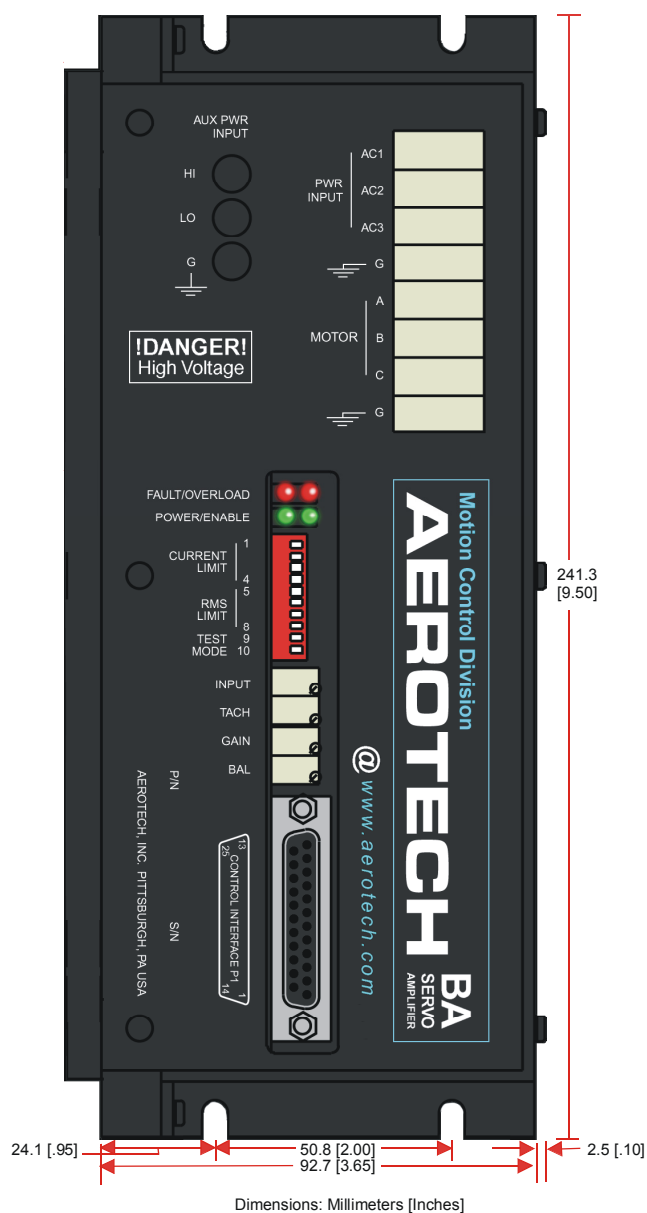
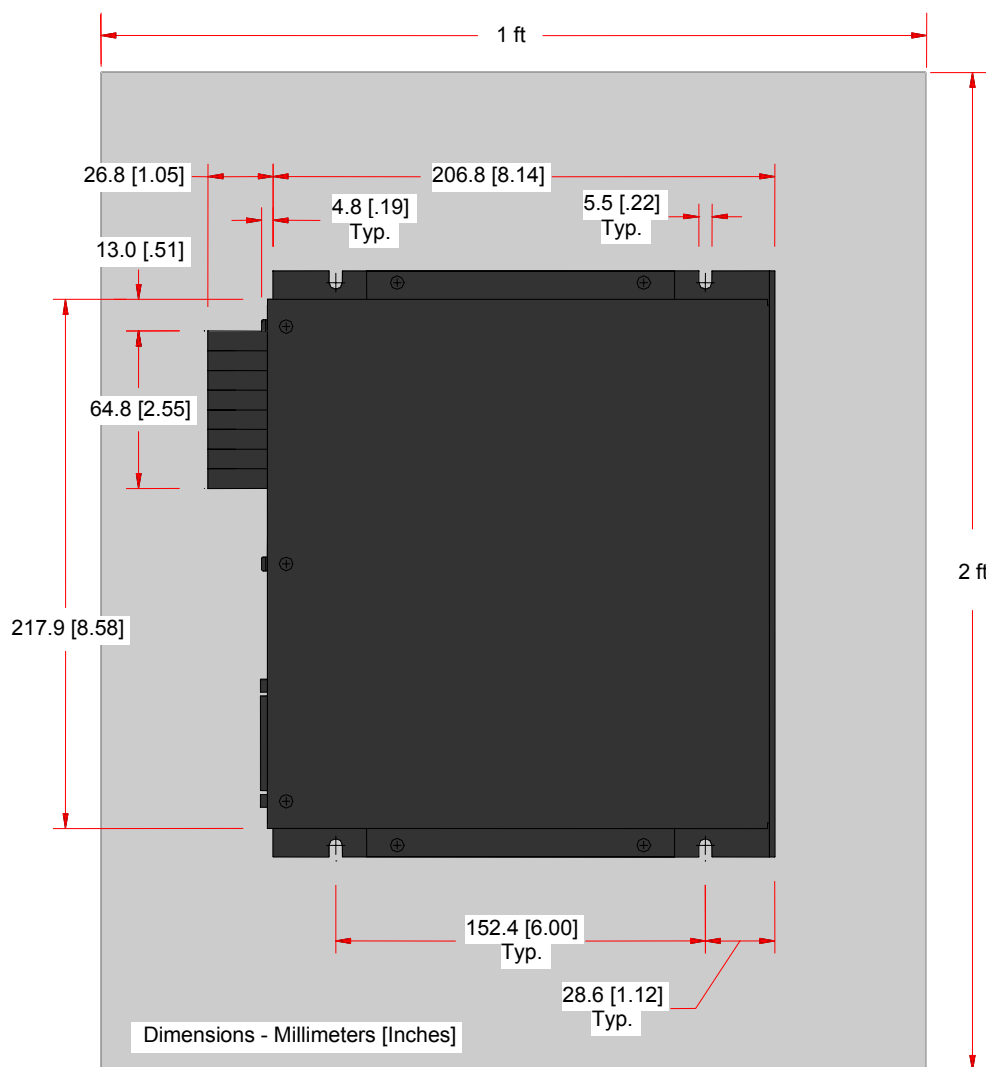
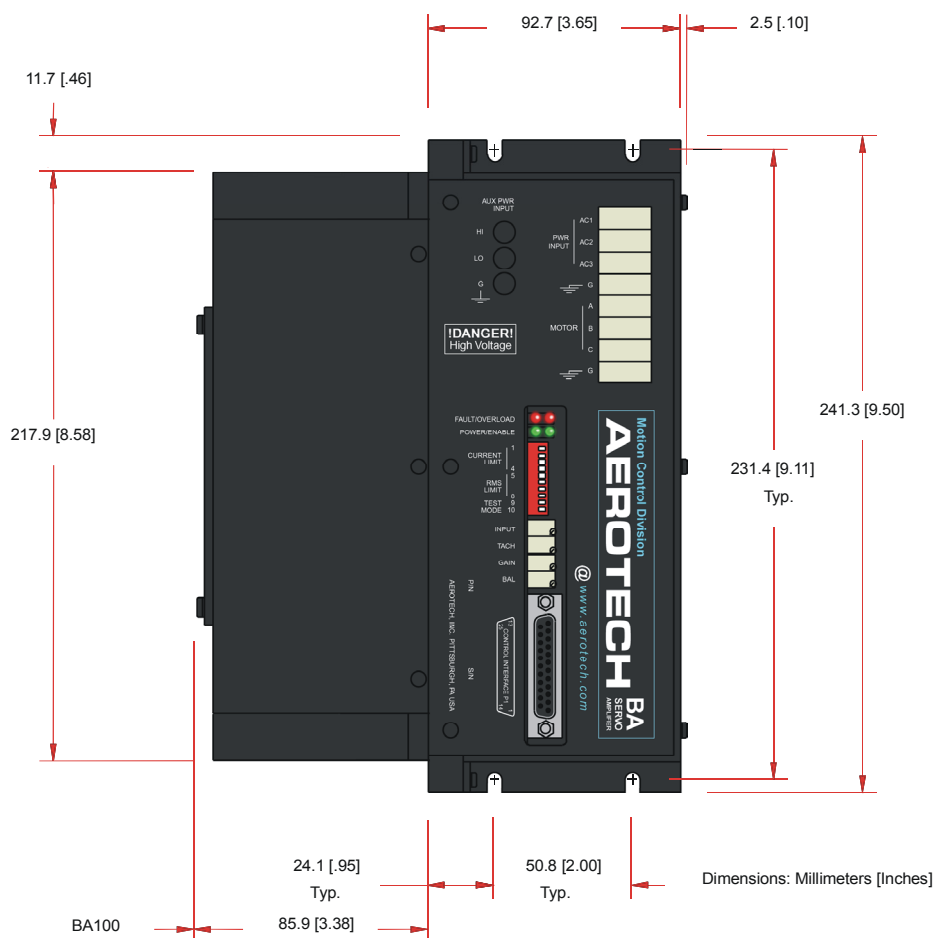

Figure 3-1. BA50 Dimensions (Front View)
Figure 3-2. BA50 Preferred Mounting (Side View)
**Figure 3-3. BA75/100 Dimensions (Front View)**
| Peak Output Current (2 sec)(current rating based on amplifiermounted to NEMA panel, seeFigure 3-2) | A(pk)   | 50                                        | 75         | 100        |
| Continuous Output Current(current rating based on amplifiermounted to NEMA panel, seeFigure 3-2)   | A(pk)   | 25                                        | 37         | 50         |
The outline dimensions for the BA amplifiers are shown in Figure 3-1 and Figure 3-2.
1. Use the mounting procedure shown in Figure 3-1, Figure 3-2, and Figure 3-3. For the BA50, the wider part of the amp should be mounted to the heat sink, if the application requires maximum continuous output current to the motor. For a typical servo system (e.g., intermittent duty cycle), the BA50 can be mounted standing up as shown in Figure 3-1. The BA75 and BA100 are always mounted standing up, see Figure 3-3.
It is advisable that the amplifier be mounted lying flat on a metal panel not less than two square feet for better heat dissipation. Refer to Figure 3-2.